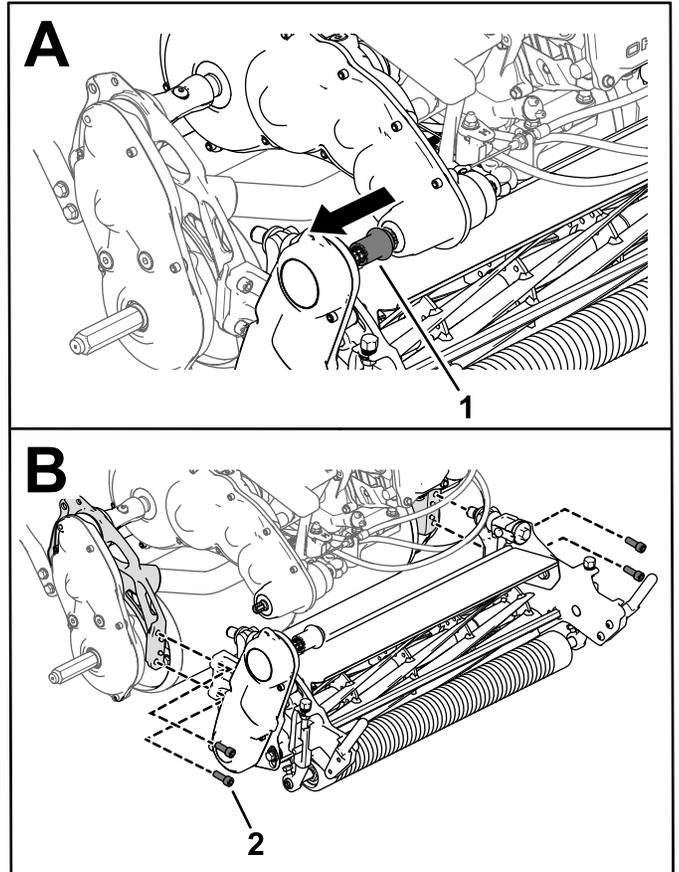

Figure 51
3. Release the cutting-unit-drive coupler from the transmission driveshaft (Figure 51).
4. Remove the socket-head screws that secure the cutting unit to the frame (Figure 51).